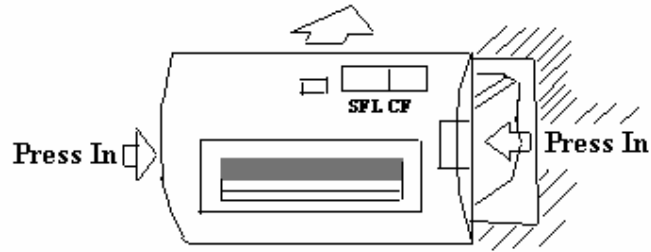

Fig. 2-3
1. Please according to Fig.2-3 shows, clamp the movable handles of SP-A both sides with fingers, fix the whole printer in the installing orifice of the panel of instrument or equipment with screws, and check whether the printer has already been installed firmly.
- (6) Turn on the printer's power, hold down SEL button, make the SEL indicator become dark, then press LF button to driver the print head, at this time send the paper end into the paper slot-in which is under the print head, paper will be put into the print head quickly, until it will appear ahead of the print head, it would be better the paper shows a certain length, then press again LF or SEL button. Turn off the power, close the front cover of the printer, make the paper come from the paper slot-out which is on the front cover.
- (7) Then according to Fig.2-3 put back the whole printer in the instrument.